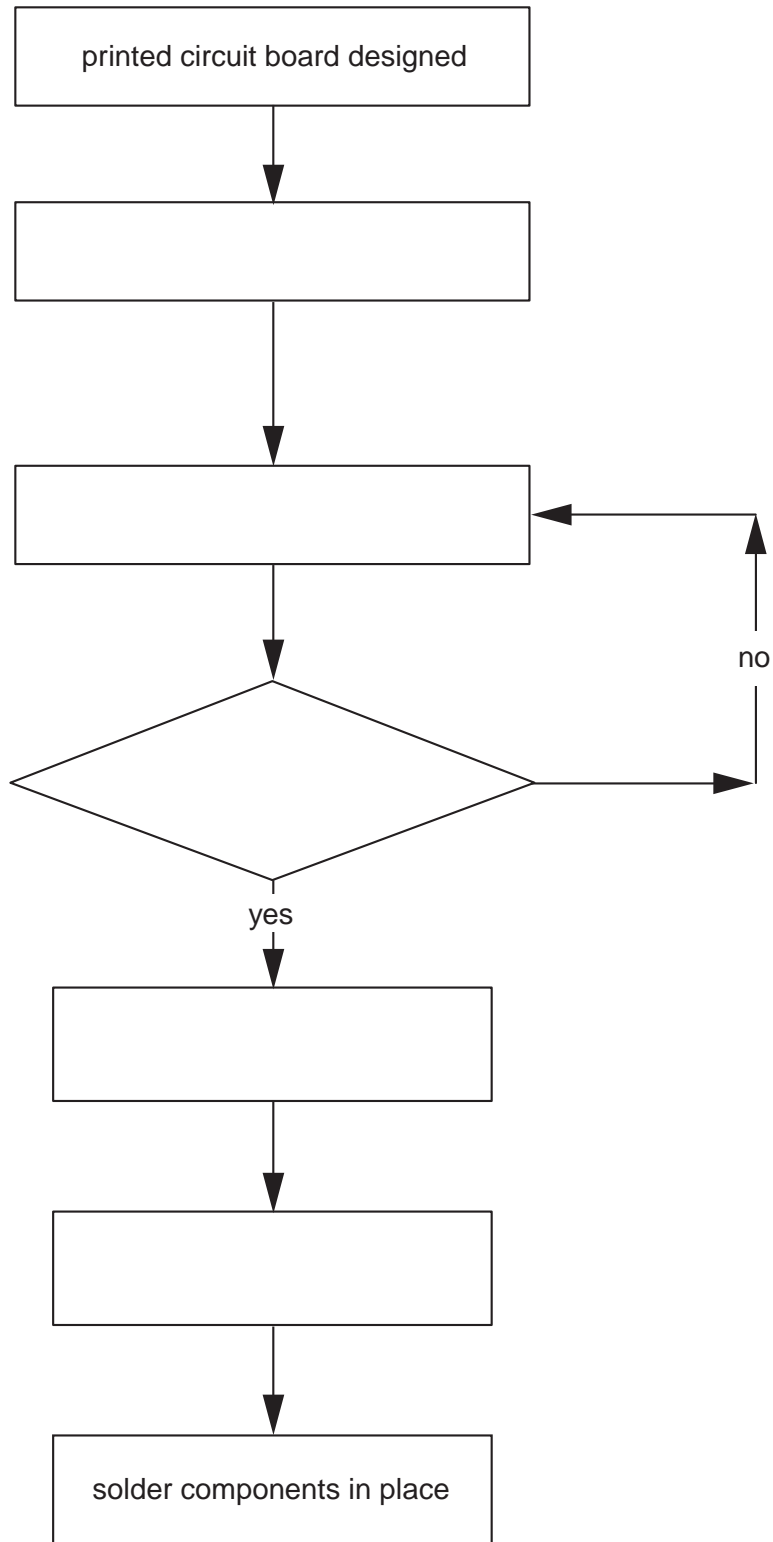

Fig. 3
- (ii) Complete the flow diagram in Fig.3 below to show the main steps production of a printed circuit board.